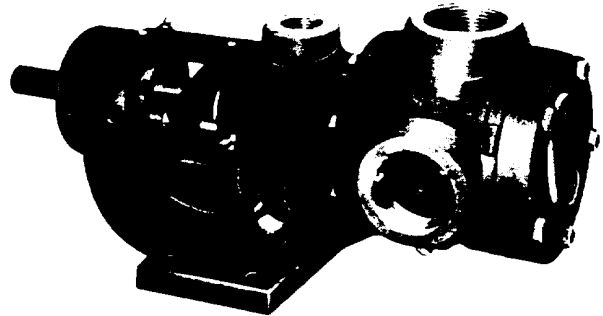

FIGURE 1.
This manual deals only with Series 225 and 4225 Heavy-Duty Jacketed Bracket Mounted Pumps. Refer to Figures 1 thru 16 for general configuration and nomenclature used in this manual. Pump specifications and recommendations are listed in Catalog Section 142, Series 225 and 4225 Heavy-Duty Jacketed Bracket Mounted Pumps.
4. Relief valve adjusting screw cap must always point towards suction side of pump. If pump rotation is reversed, remove pressure relief valve and turn end for end. Refer to Figures 1, 2 and 3.
If pump was equipped with a relief valve and it was removed during disassembly, install on head with new gaskets. Relief valve adjusting screw cap must always point toward suction port. Refer to Figures 1, 2 and 3 on page 1. For relief valve repair or adjustments, refer to Pressure Relief Valve Instructions, page 11.